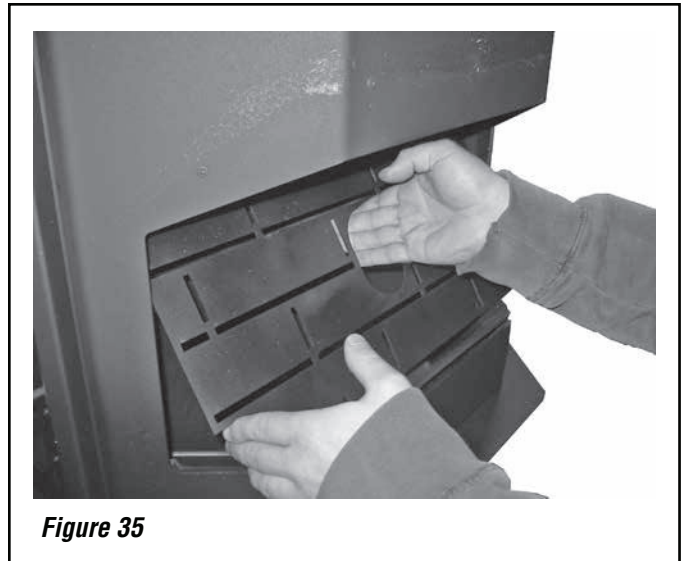

Figure 35
3. Insert the brick panel, top first, as shown in **Figure 35**. The two cut out corners should be at the bottom.